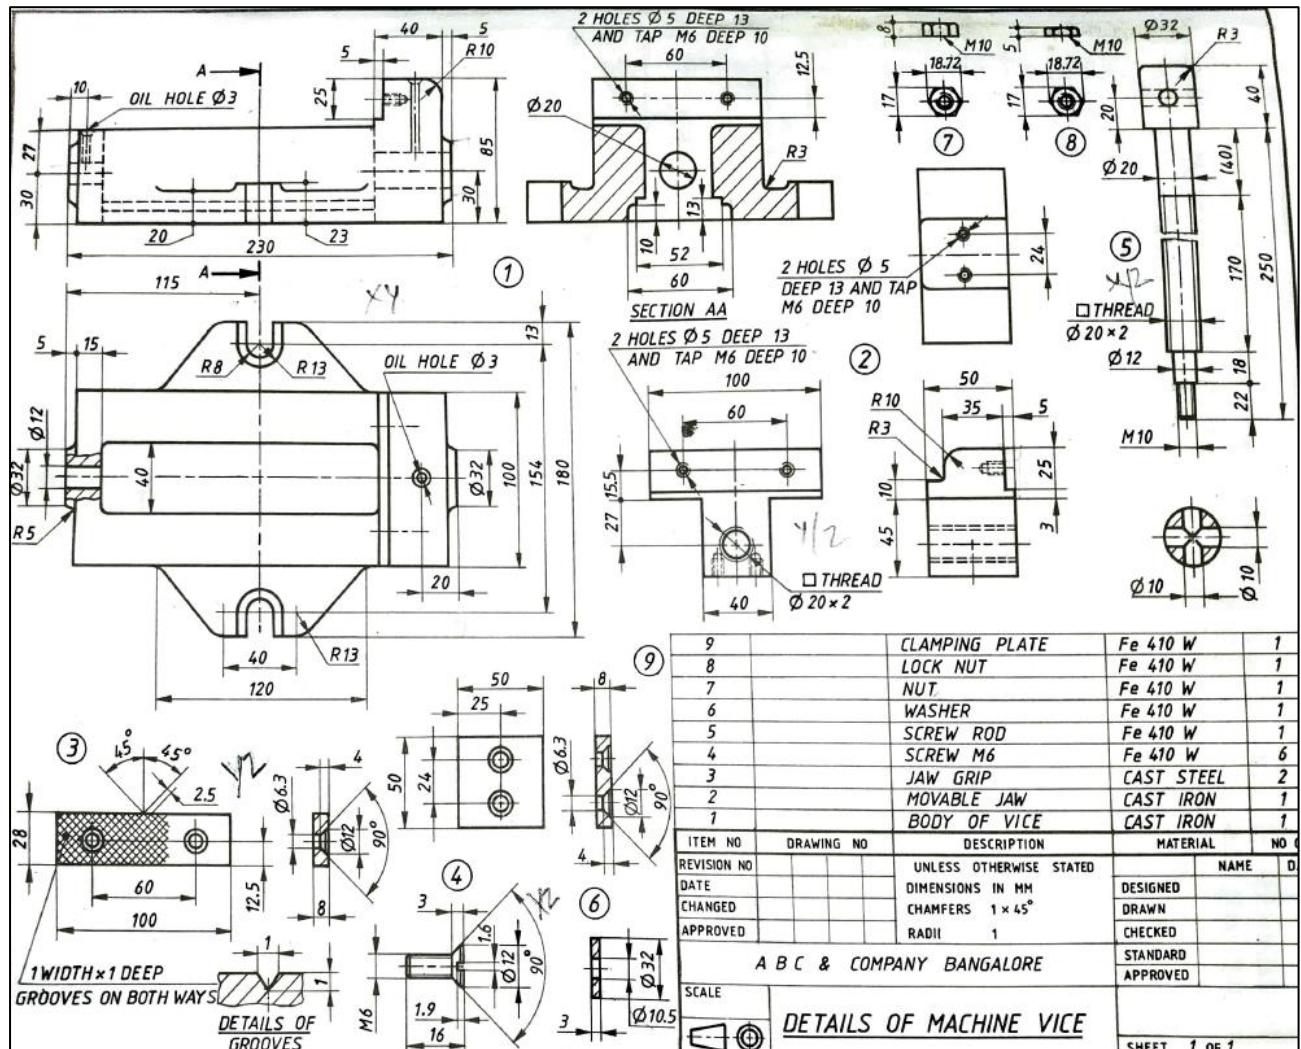

Figure 3: Details of Machine vice
3. Fig. 3 shows the detail of the Machine vice. Assemble parts and draw the following views of the assembly to scale 1:1 with the jaws spread 50 mm apart.